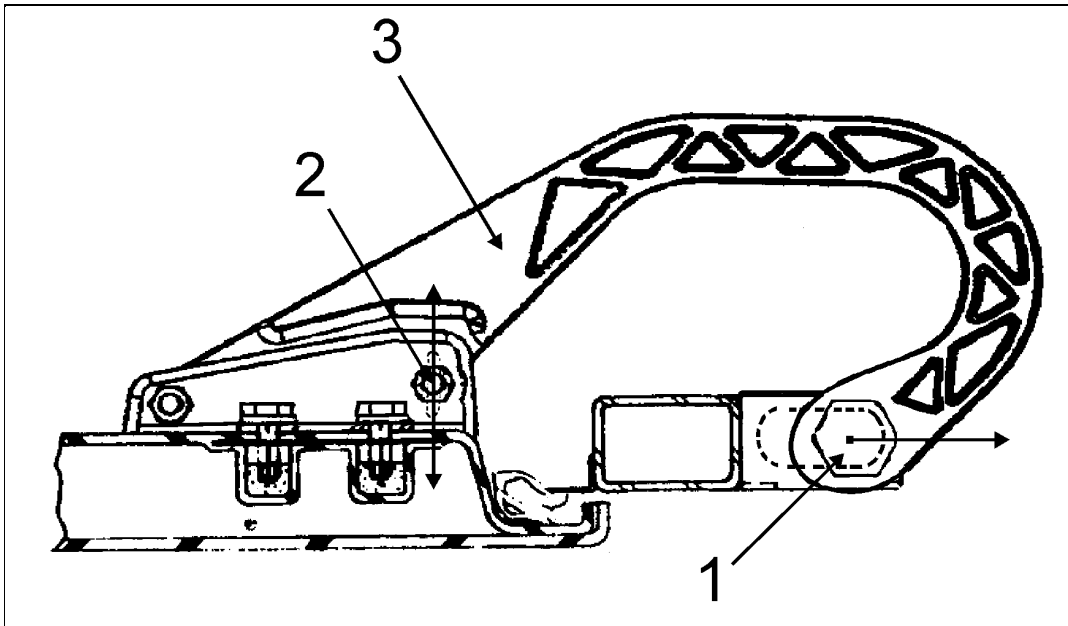

FIGURE 36: ENGINE COMPARTMENT REAR R.H. SIDE DOOR
2. Loosen nut (1, Fig. 36). Move part (3, Fig. 36) as shown in figure. Tighten nut (1, Fig. 36).
3. Loosen nut (2, Fig. 36). Hinge allows the door to be shifted "IN or OUT" and "LEFT or RIGHT". Adjust the door in accordance with the required distance between exterior finishing parts (Fig. 18).